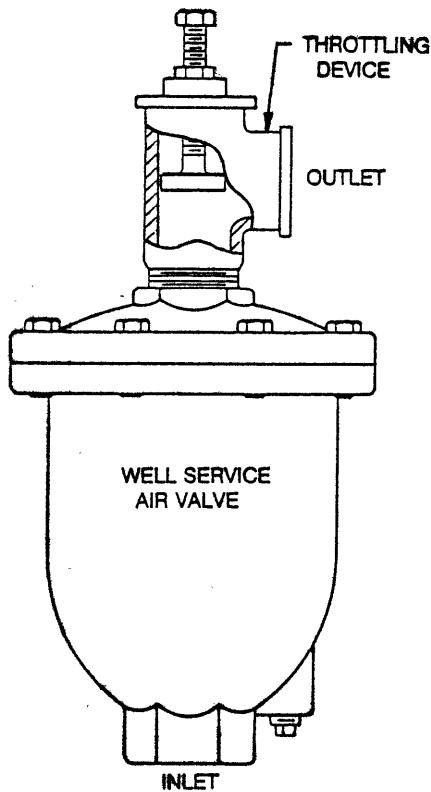

FIGURE 5. THROTTLING DEVICE
The valve may be equipped with an optional throttling device as shown in Figure 5. The throttling device is installed on top of the Well Service Air Valve and controls the rate at which air is exhausted from the pipe during pump start-up.
- **Valve Slams Closed:** Air may be exhausting too rapidly. Throttle exhaust of valve. Partially close down throttling device (Figure 5) if included.
- **Air is not exhausted:** Inspect float for free travel, damage or water leakage. Check that exhaust piping is not clogged or isolation valve inadvertently closed. Open throttle valve (Figure 5) wide open if included. Valve may be too small for application. Identify pump flow rate and call factory to check sizing.